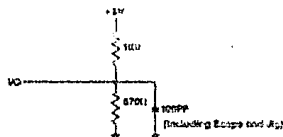

Figure 1 - Output Load
- Transition is measured $\pm 200\text{mV}$ from steady state voltage with specified load of Figure 1.